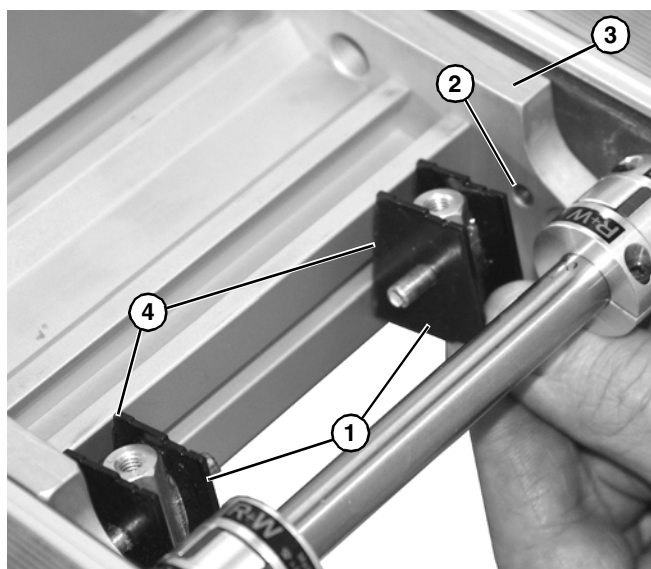

**Figure 29**
10. Slide both ends of inner portion of 3-jaw coupling (**Figure 29, item 1**) onto mating surface of outer 3-jaw coupling (**Figure 29, item 2**) and secure with clamp screws (**Figure 29, item 3**). Tighten screws to 17 in-lb (2 Nm).